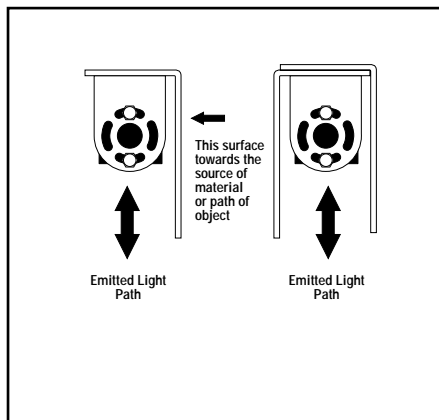

Figure 2. One Protective Stand protects back and one side of sensor; or mount two together to form a U-channel to protect all sides
- Protects one side and front window of light screen sensor, or combine two in a U-shaped configuration to protect entire sensor (see Figure 2)